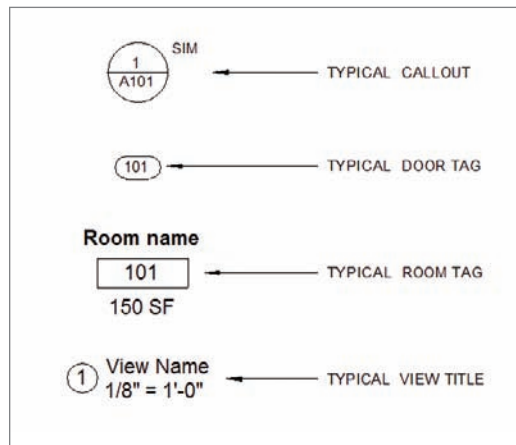

FIGURE 11.50 Adding descriptive text
4. Add the following notes to the rest of the symbols (see Figure 11.50):